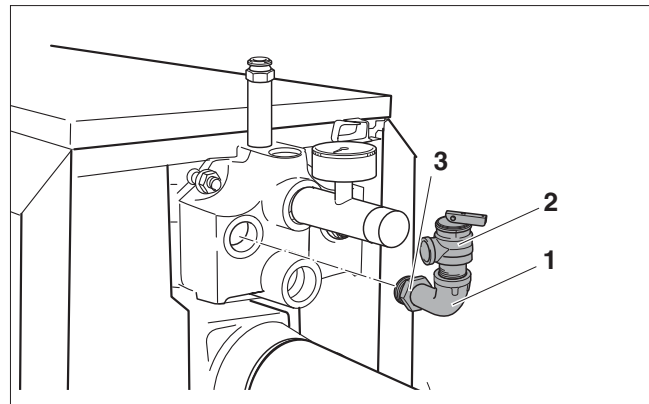

Fig. 47 Installing B-Kit
- Seal pressure relief valve connection (→ Fig. 47 page 36) and all other open connection with blind plugs.
- Installing pressure relief valve (→ Fig. 47 page 36).